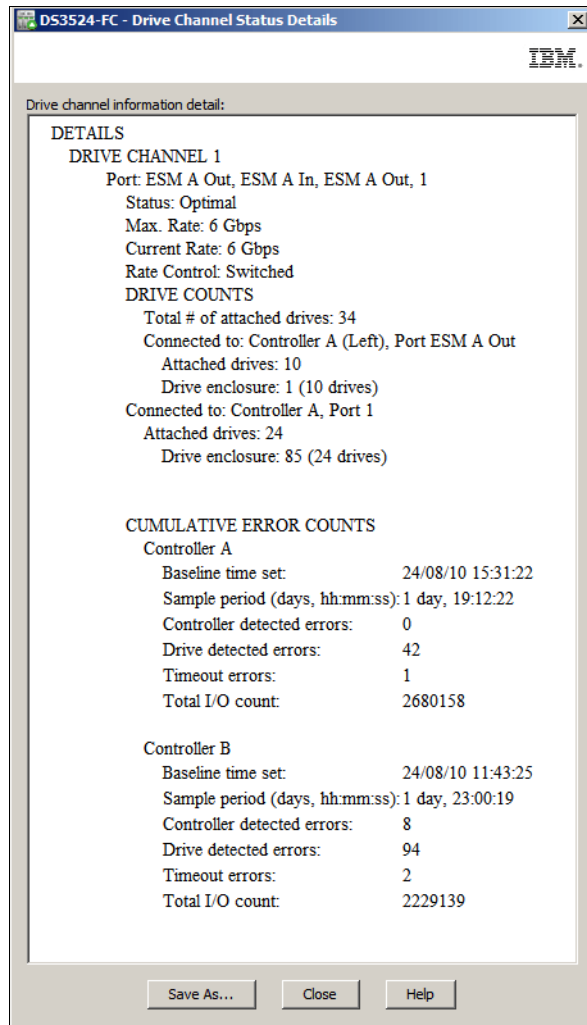

Figure 14-117 Drive Channel Status Details
1. You can view details for a specific Drive Channel by selecting either Drive Channel 1 or 2 in the Summary window and then clicking the **Show Details** button to open the Drive Channel Status Details window as shown in Figure 14-117 on page 404. Click the **Save As** button to save these details as a text file.